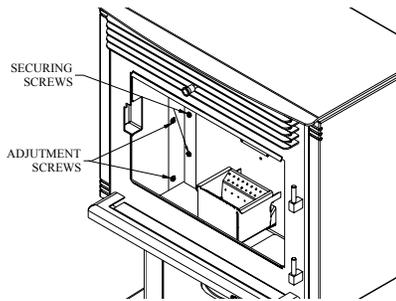
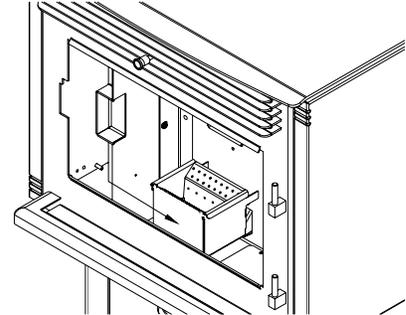
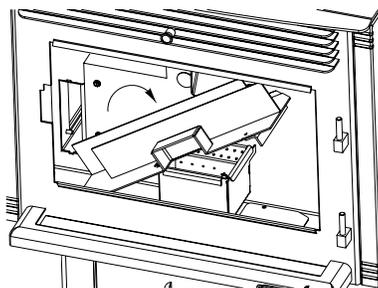
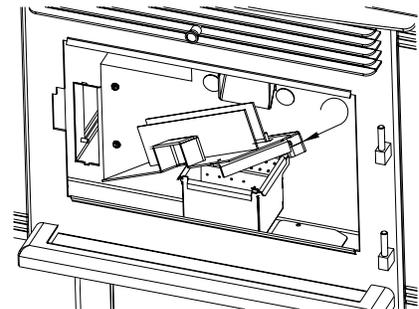

Figure 47
Figure 48
Figure 49
Figure 50
- c. **Chamber walls:** Periodically, you must vacuum the ashes that may have accumulated on the main walls of the combustion chamber. **START BY REMOVING THE DECORATIVE MASONRY-LIKE PANELS, WHICH ARE SIMPLY HELD BY CLIPS.** The use of a vacuum is necessary. There is also a cleaning outlet located behind the left side panel of the combustion chamber. Remove this panel using a screw driver. Loosen the adjustment screws then remove the securing screws(Figure 47). Slide the wall toward right(Figure 48), tilt it (Figure 49) then remove it from the combustion chamber. Scrape off ashes. You will notice a small rectangular cleaning outlet. Inspect behind this outlet (see Figure 50) Insert the vacuum tip through the cleaning outlet and clean thoroughly. **REPEAT THIS OPERATION AT LEAST ONCE PER TON OF PELLETS BURNED UNTIL YOU ARE FAMILIAR WITH HOW ASHES ACCUMULATE WITH YOUR OPERATING PRACTICES.**